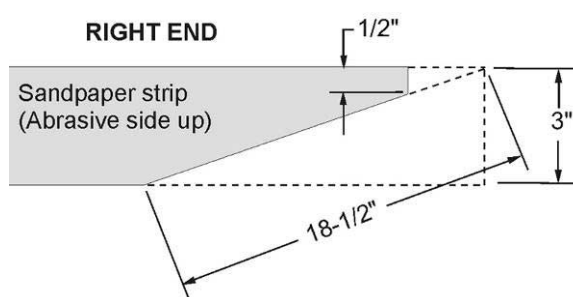
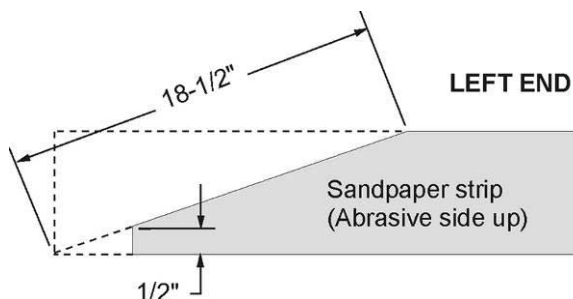

Figure 4
Figure 5
4. Mark and cut a taper at the right end of the abrasive strip (Fig. 4). Because the tapered end should use all of the recess at the right side of the drum, its end must be trimmed back leaving an edge of about 1/2 inch, as shown. Now trim the left side of the abrasive paper in a similar manner (Fig. 5).